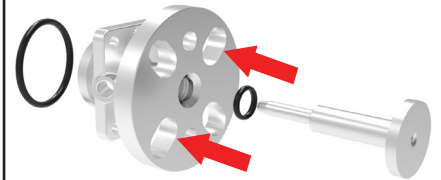

Figure 9b
1. Attach the o-rings as shown in the Figure 9b and then attach the insert.